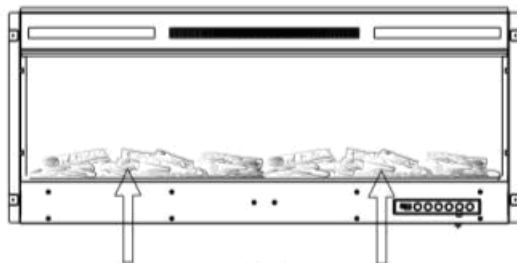

figure 1.
- B. If your fireplace come with lotset, remove the logset from the package, put it to the fireplace designed place. Figure 1.